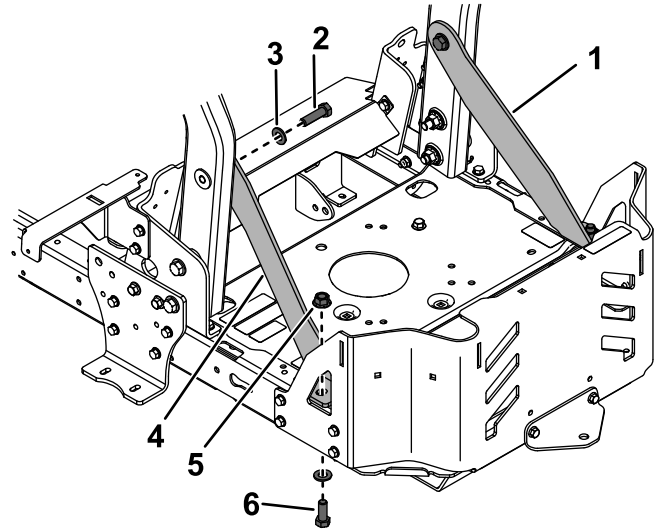

Figure 5
4. Loosely install the left and right support brackets using 1 bolt (1/2 x 1-1/4 inches), 1 locknut (1/2 inch), 1 bolt (1/2 x 1-3/4 inches), and 1 washer for each bracket (Figure 5).